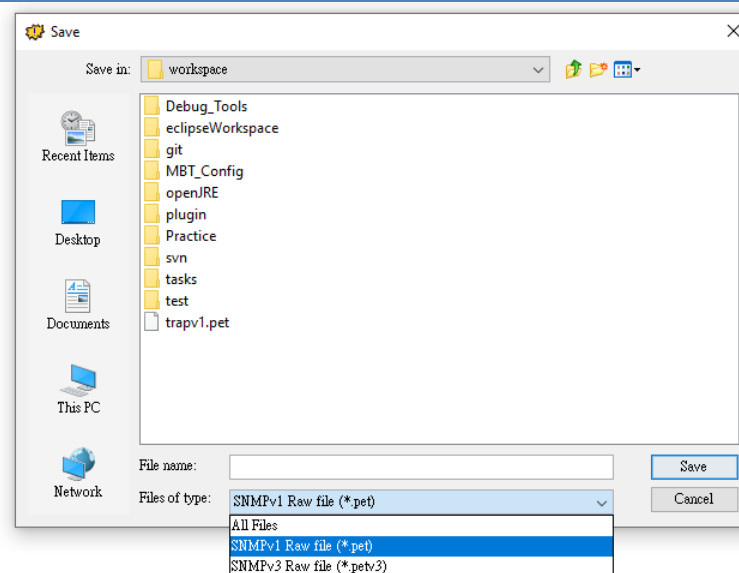

Figure 13-5
- **Save:** saves the SNMPv1 or v3 traps received into a file by selected file extension (see Figure 13-5).